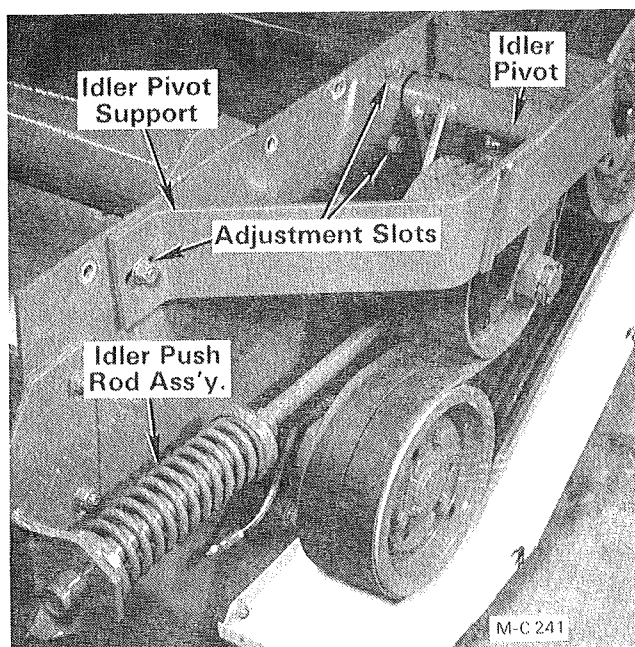
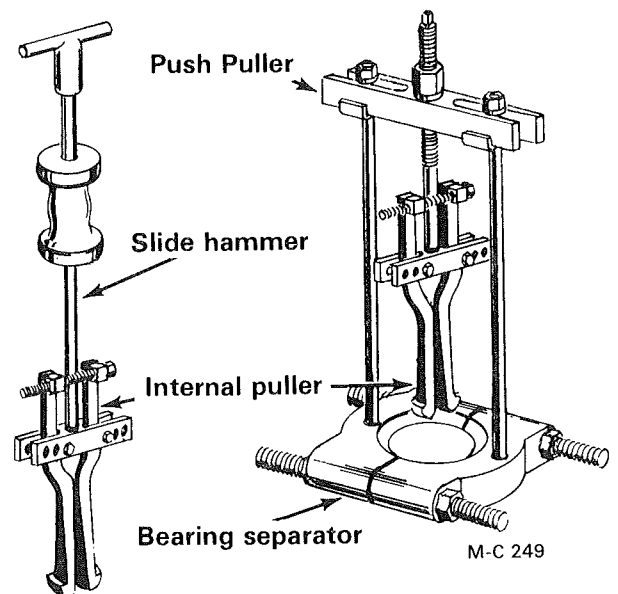

Figure 43
Figure 45
4. Remove the three capscrews, lockwashers and hex nuts securing the idler pivot support to the Shredder body, see Figure 43 & 44. Remove the idler pivot support and pull the idler pulley assembly off of the idler pivot.
5. Remove cotter pin (1), castellated nut (2) and idler bolt (6) from the idler arm (5).
6. Use an internal puller, see Figure 45, to remove the bearing seals (8) and bearing cups (10).
7. Pack the new bearing cones (9) with a good grade of wheel bearing grease. Press the bearing cups (10) into the hub, install bearing cones (9) and press in the bearing seals (8).
8. Put a hub spacer (7) on each side of the hub assembly and place the assembly in the idler arm (5). Install idler bolt (6) and castellated nut (2). Tighten the nut just enough to hold the assembly together.
9. Place the idler pulley assembly on the idler pivot. Install the idler pivot support, see Figure 43 & 44. Do not tighten the cap